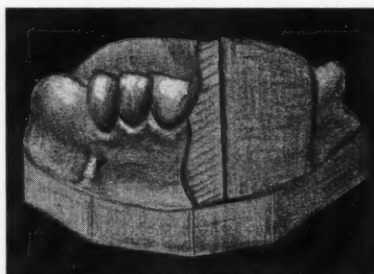

Fig. 3—Cast of one half of labial surface of teeth, from central to cuspid with lingual cast in place.
3. A cast is made of one half of the labial surface of the teeth, from central to cuspid with the lingual cast in place (Fig. 3).